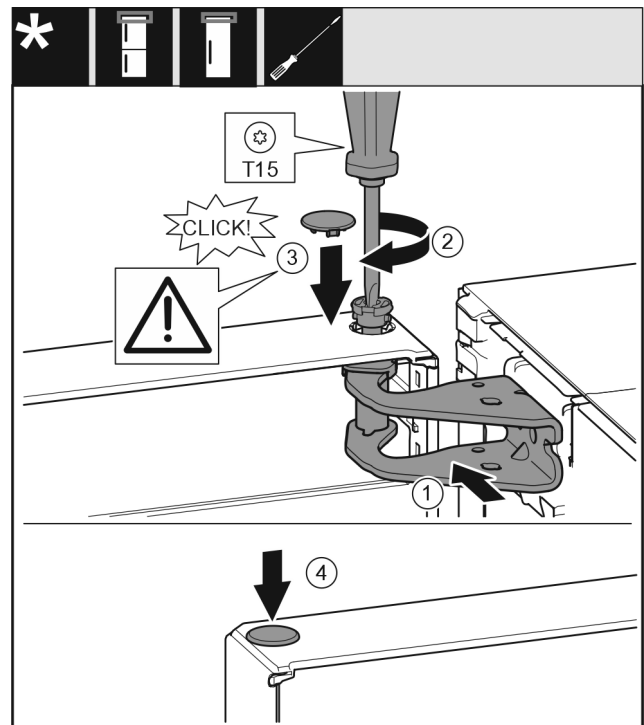

Fig. 21
- ▶ Align the top of the door with opening in the bearing bracket. *Fig. 21 (1)*
- ▶ Insert the pin *Fig. 21 (2)* and tighten it with the screwdriver.
- ▶ Mount the safety cover *Fig. 21 (3)* to protect the door: Insert the safety cover and check whether it is positioned on the door. If so, insert the pin completely.
- ▶ Insert the plug. *Fig. 21 (4)*